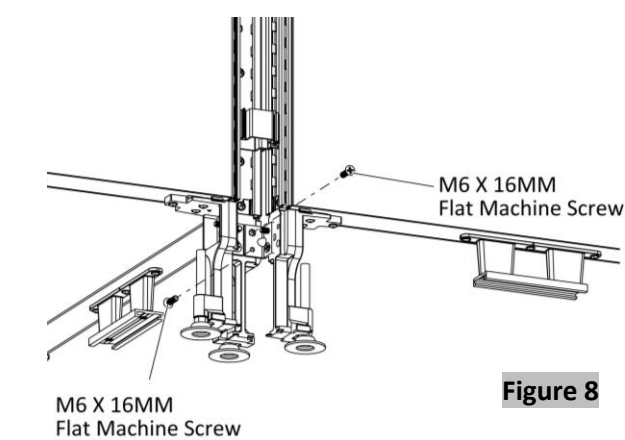

Figure 8
- 15.** Secure the base with two M6 X 16MM Flat Machine Screws, (Figure 8).